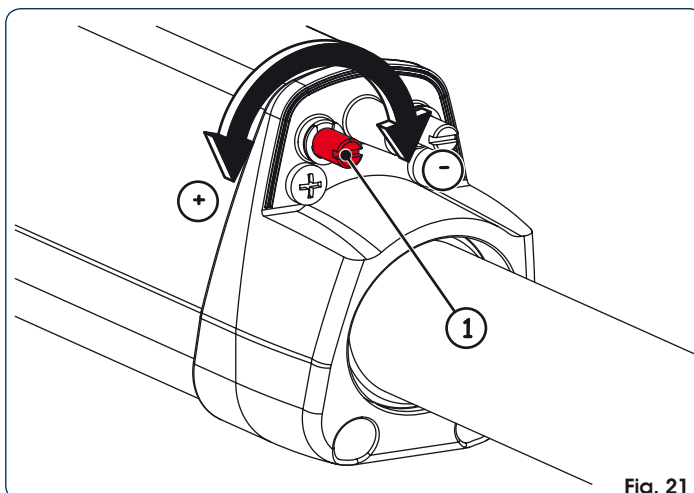

Fig. 21
3. To adjust the **opening limit switch FCA** turn the adjusting screw counter-clockwise, Fig.21 ref.①, to increase the rod stroke and clockwise to reduce it.